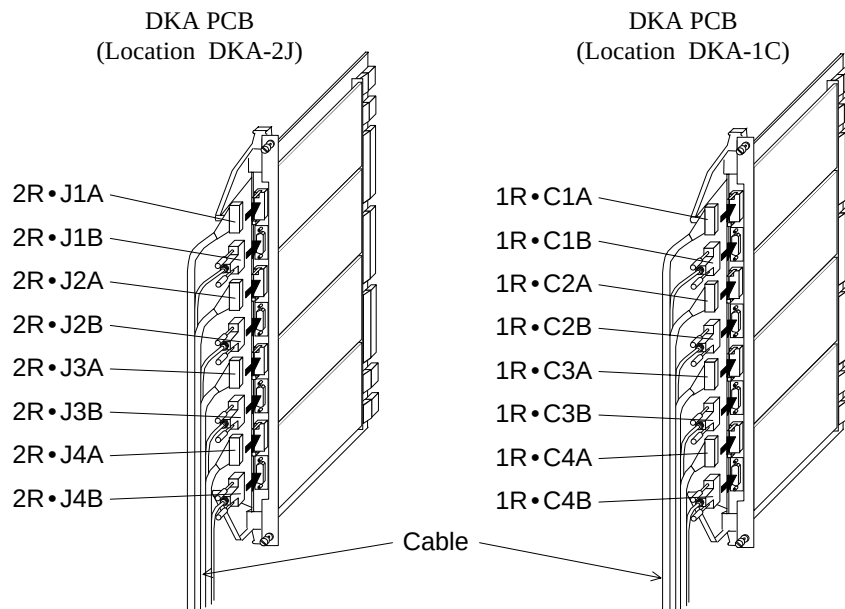

Fig.3.11.9-15 Connection of cable (Add.1)
a. Connect the cables to the sub-edge of PCBs. (Refer to Fig. 3.11.9-15.)